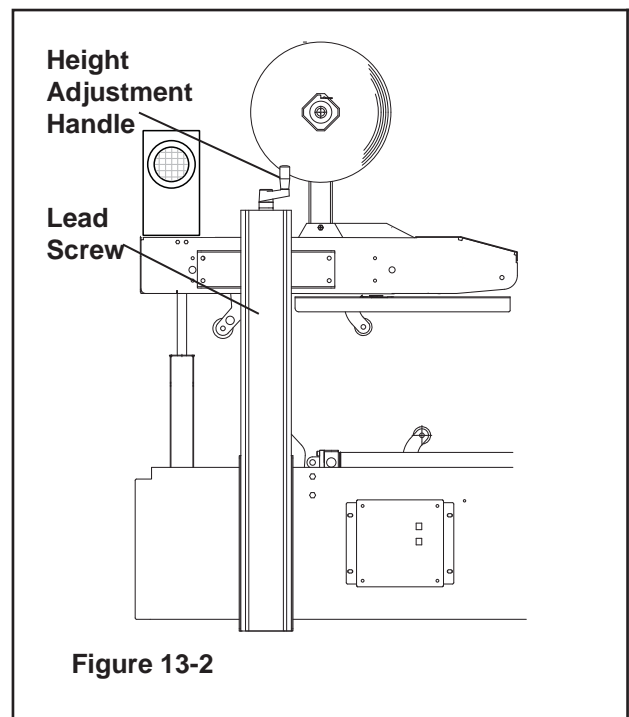

Figure 13-2
- Synthetic Silicone Spray may be used on Lead Screw (**Figure 13-2**).